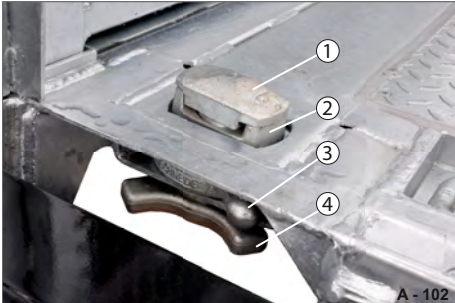

Fig. 155 "Twist-Lock" overview
- Unscrew the clamping nuts (Fig. 155/4).
- Turn the grooved bush (Fig. 155/3) to the right.